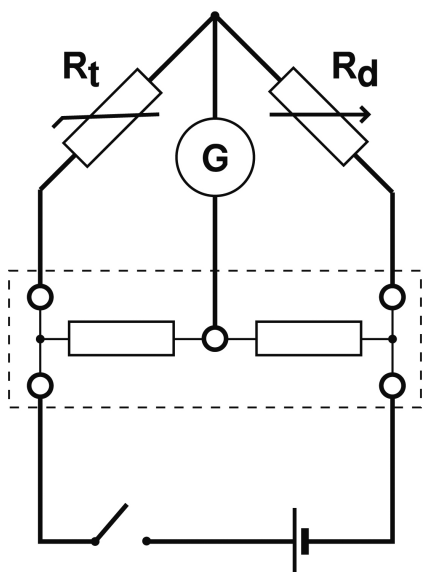

Fig. 2 The diagram of the circuit.
1. Connect the circuit according the diagram in Fig. 2.
3. The diagram in Fig. 2 represents so called Wheatstone bridge used to measure an unknown electrical resistance by balancing two legs of a bridge circuit. In our diagram, one leg includes the thermistor and the known resistor, in the second is the decade resistors box and the second known resistor. The bridge is balanced, when the current through the galvanometer  $G$  is equal to zero. Because we use two resistors of identical value (one in each leg of bridge), at balance, the resistance of thermistor is equal to the resistance of decade. The resistance of decade box is adjustable. So, at given temperature we change the resistance of decade box while no current flows through the galvanometer. The value adjusted on the decade box directly indicates the resistance of thermistor.